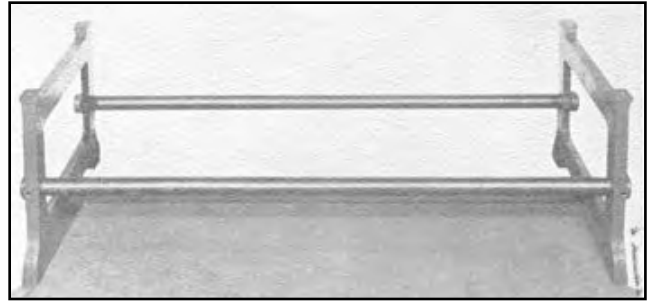

Fig. 3
3. Assemble the sub-base as shown in Figure 3 by inserting the pipes in each side frame. Tighten upper structure on the sub-base. Locate the sub some adjustment may be necessary in locating the the set screws just enough to hold the assembly, base assembly in the spot where you will use the machine if possible before completing the assembly. The Model 900 is heavy, built of rugged cast iron and steel, for long life.